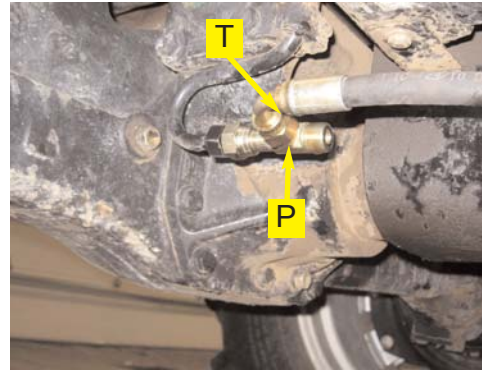

Figure 7d. Installed run tee and steering lines connected.
- c. Install run tees (**P**) onto the steel steering cylinder lines. (Figure 7d. and 7e.)
- d. Connect the hydraulic steering hoses (**T**) from the **A** and **B** ports on the automated steering block to the branch of the of the run tees (**P**). Route the hoses under the cab and along the frame with existing plumbing. (Figure 7d., 7e., and 7f.)